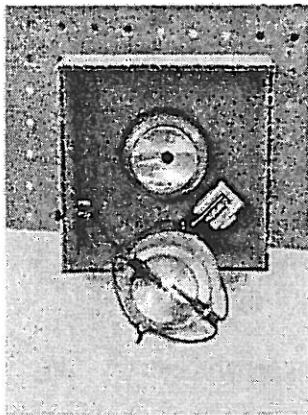

Fig. 4
3. Cut both the cans off on the marked line (scissors work fine). On the shortest can, punch a 3/8" hole dead center on bottom. On the taller can punch two holes, one across from the other, using a paper punch. Using a razor blade, make 1/4" slices 90° apart in each of the taller can's holes.(Fig. 4)
6. While paint is drying create a parallel circuit using two light bulbs, a switch, a lead, and a battery. Assemble the circuit into the box when paint is dry. (Fig.4)